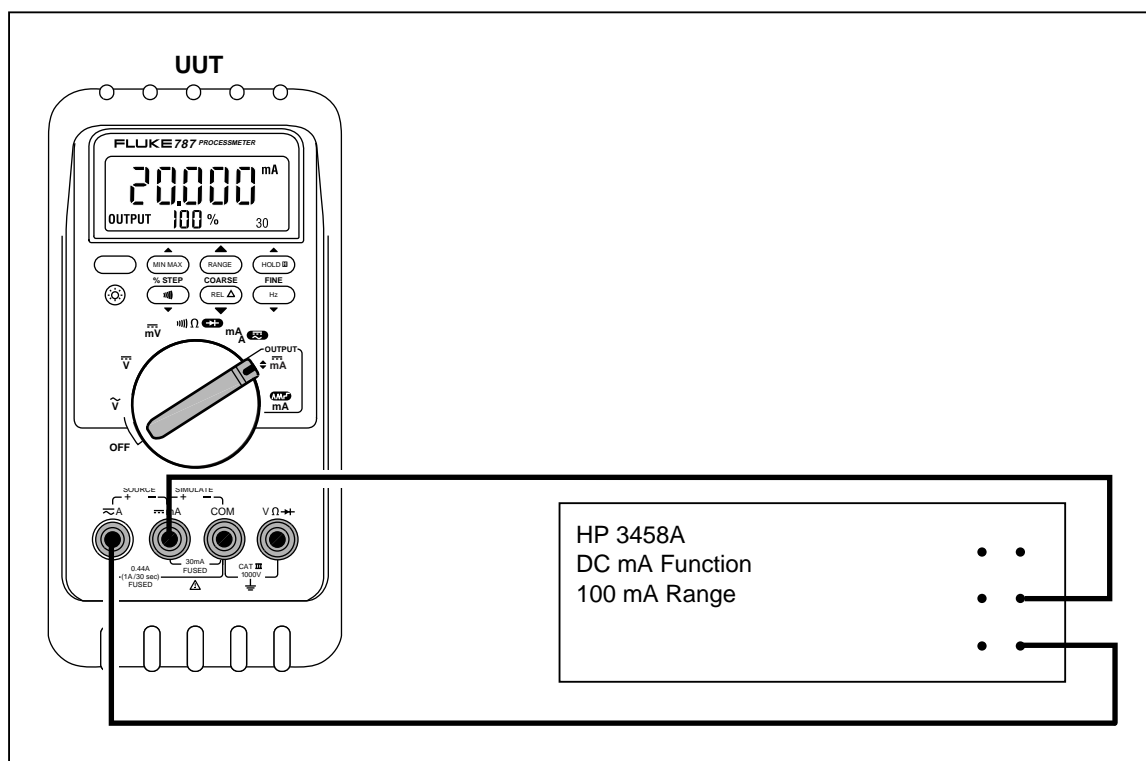

Figure 4. Current Sourcing Connections Using the HP 3458A
2. Connect the **SOURCE +** (\approx **A**) and **-** (\approx **mA**) terminals on the UUT to the current terminals on the multimeter as shown in Figure 4.